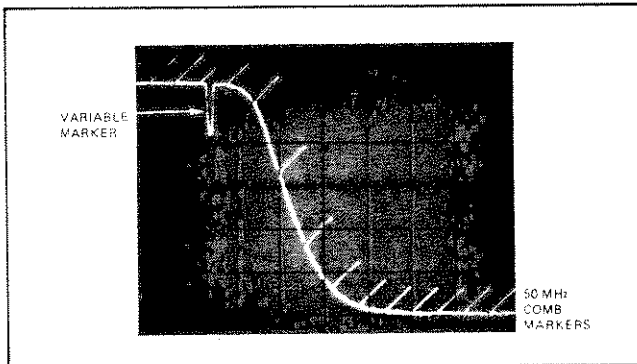

Figure 3-11. Bandpass Filter Measurement Showing Marker Tilting
Marker controls provide control over sweep generator markers that appear on the 560A CRT. If the WILTRON 6600(A) Series sweeper provides the markers, threshold control is provided by the front panel OFF-THRESHOLD control. If the Hewlett-Packard Model 8620 provides the markers, markers appear on screen when the OFF-THRESHOLD control is moved from the OFF (detent) position. In the case of either sweep generator, markers are fixed in amplitude. The THRESHOLD control, when used, determines only the threshold voltage at which internal marker circuitry responds to external marker inputs. The front panel TILT control provides up to plus or minus ( $\pm$ ) 45 degrees of tilt for displayed markers. This tilting of markers is very helpful in identifying markers where the displayed signal has steep skirts, e. g. measurements of an electronic filter (Figure 3-11). Additionally, when the 6600(A) Series sweeper with its three different types of markers is used, the 560A response is different for each marker-type. This response is described below.
- a. INTENSITY Markers. The 560A responds to intensity markers only in the REAL TIME display mode. Markers appear as an intensified dot; see page 3-5, (9).